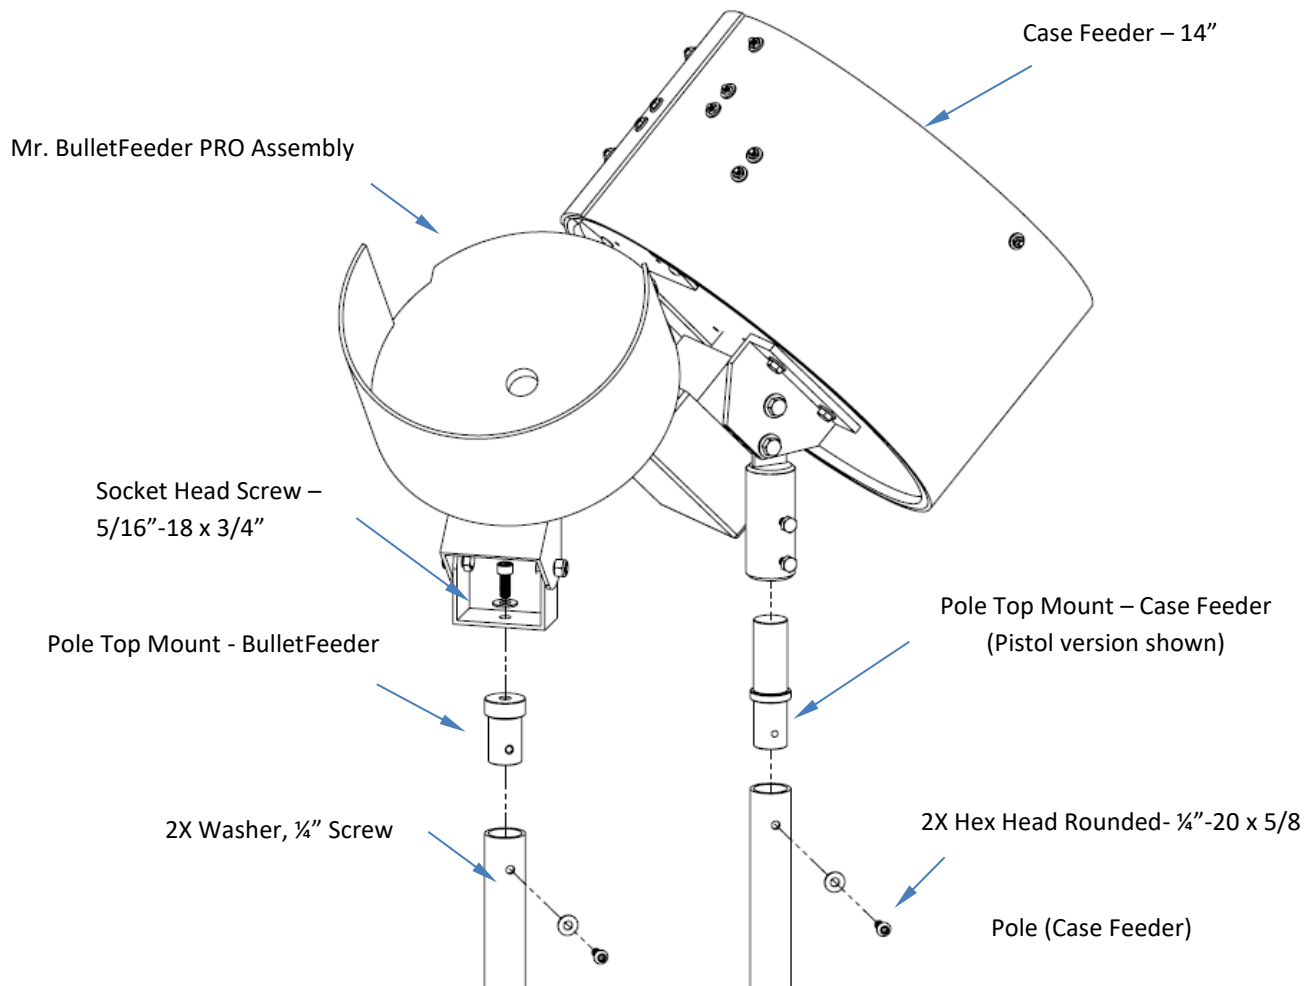

Figure 3: Case Feeder and BulletFeeder Collators Installation.
- Assemble **Pole Top Mount – BulletFeeder** into **Pole (BulletFeeder)** using hardware in Figure 3.
- Assemble **Mr. BulletFeeder PRO Assembly** onto **Pole top Mount -BulletFeeder** using hardware in Figure 3.
- Assemble **Pole Top Mount – Case Feeder** into **Pole (Case Feeder)** using hardware in Figure 3.